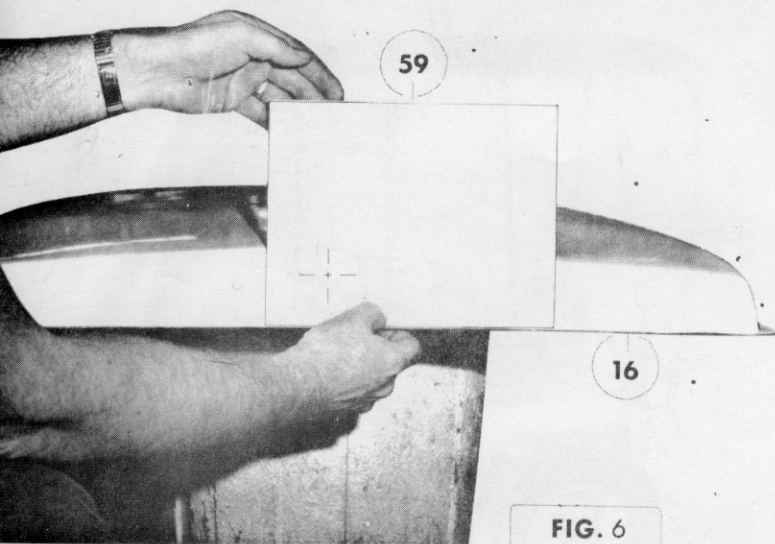

FIG. 6
STEP 4: SEE FIGS. 6, 7, 8, & 9: